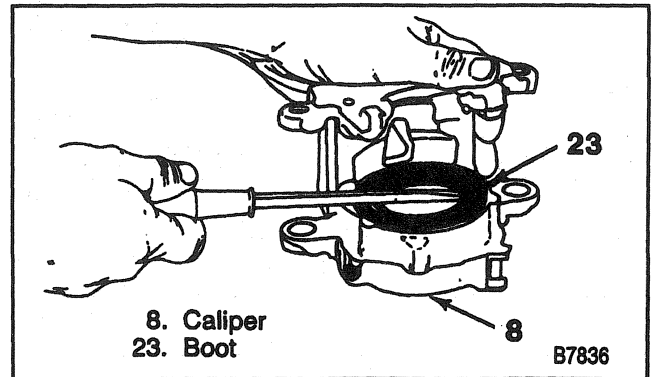

Figure 35—Removing the Boot
4. Boot (23) (Figure 35).
5. Piston seal (21).
6. Bleeder valve (20).